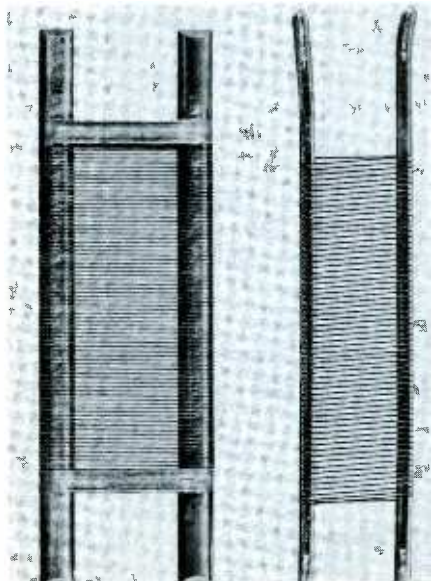

Fig. 4. Amperex frame-grid structure compared to conventional tube grid.
**Pulse generator** — Automatic equipment employs pulses of voltage as the principal means of signal transfer from stage to stage. The meaning of a particular pulse may be assigned either by the designer at the time of construction, or by the person operating the equipment. Troubleshooting such equipment requires a reliable source of pulses, such as the instrument shown in Fig. 4, with provisions for adjustment of various pulse characteristics such as amplitude, duration, and repetition rate. Closed-loop systems using pulses as "bits" of information are serviced by breaking the loop at the electronic input and injecting pulses that simulate the ones normally found at this point.